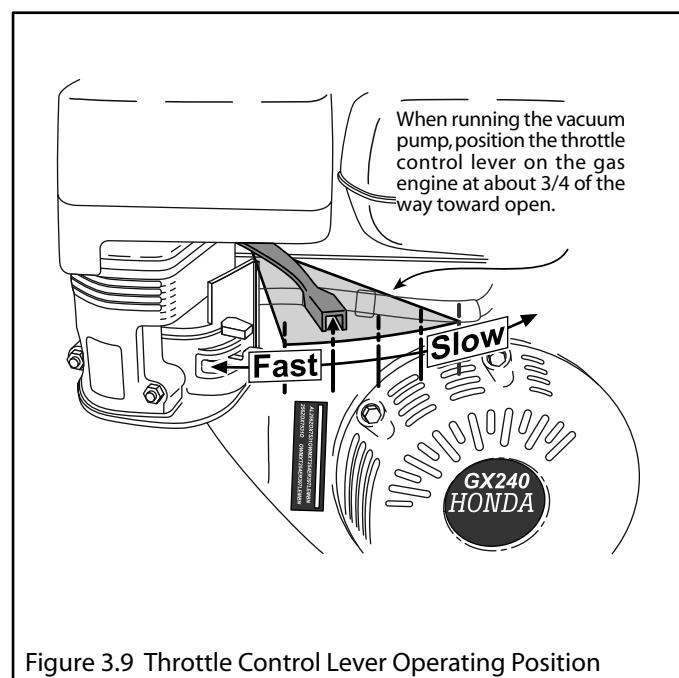

Figure 3.9 Throttle Control Lever Operating Position
- Move the throttle control lever on the gas engine to about $\frac{3}{4}$ of the way toward the FAST position (Figure 3.9). This will provide the recommended 1250 to 1300 rpm at the vacuum pump.
3. Move the throttle control lever on the gas engine to about 3/4 of the way toward the FAST position (Figure 3.9, page 19). This will provide the recommended 1250 to 1300 rpm at the vacuum pump.